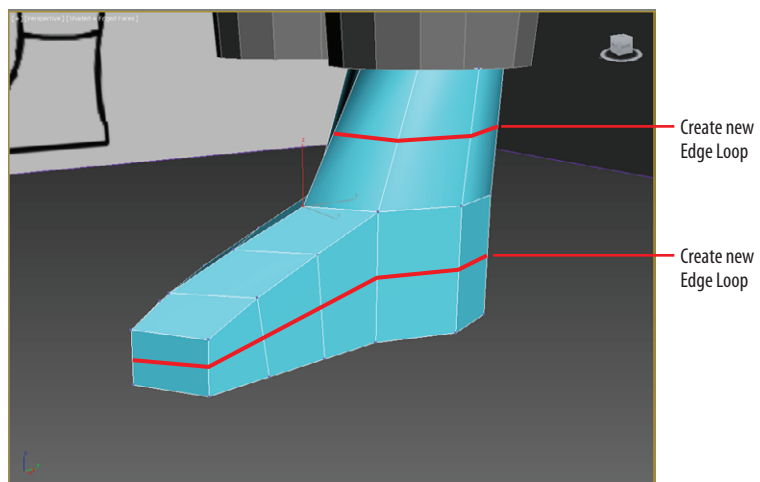

FIGURE 8.23 Use SwiftLoop to create new horizontal edges around the side of the lower boot and ankle.
17. Create a new horizontal edge loop around the boot from heel to toe on the side of the boot and around the ankle, as shown in Figure 8.23.